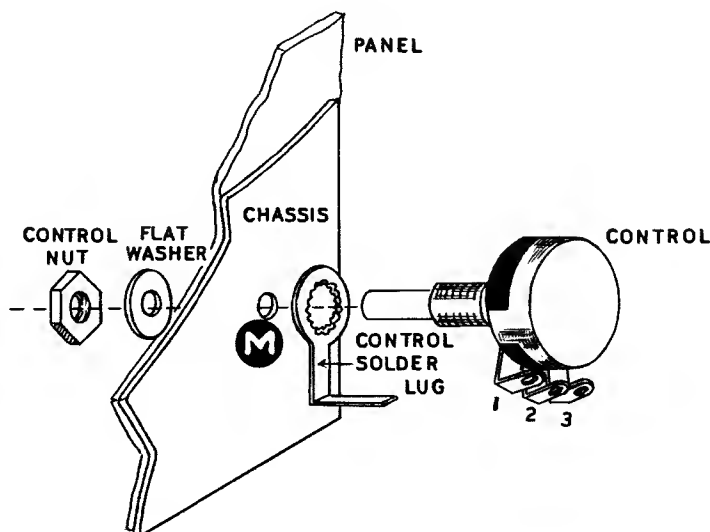

Figure 4
(P) Take the control solder lug, bend and form as shown in Detail 2 and cut off $\frac{3}{8}$ ". Place the solder lug on the control and insert the control through hole (M) of the chassis and then through the front panel. Place a $\frac{3}{8}$ " flat washer and a $\frac{3}{8}$ " nut on the front. See Figures 4 and 5. Do not tighten. Line the control solder lug up with terminal #1 (S).